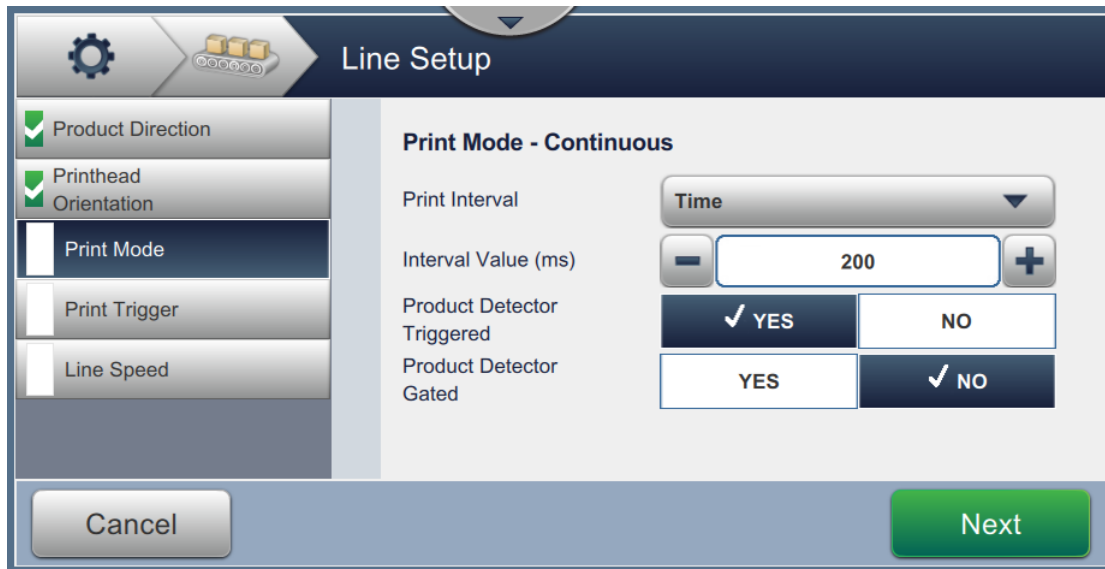

Figure 6-32: Print Mode - Continuous
2. Change the parameters in the Settings screen. Touch the  button to set the mode as shown in Figure 6-32.